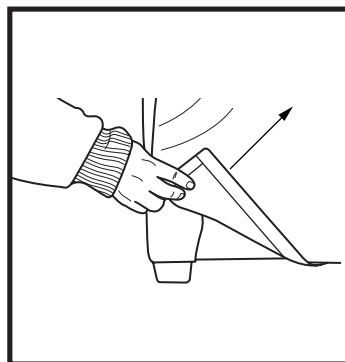

Figure 6. Chair Back Hook and Loop Flaps (Removal)
1. Remove the bottom of the back fabric from the hook and loop flaps on the chair base. See figure 6.